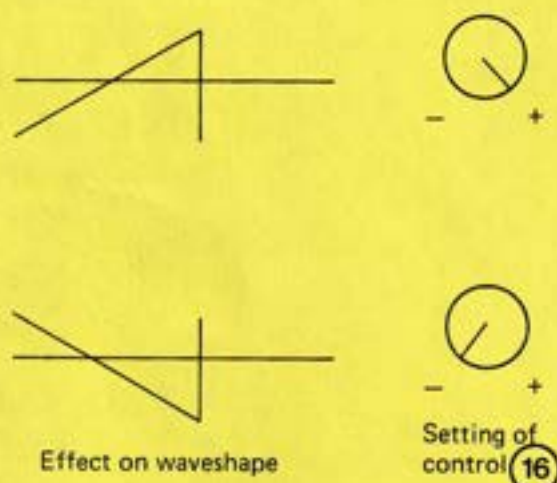

Fig. 11
- (2) Hold middle C and rotate the control (16) clockwise and then anticlockwise. When it is clockwise (positive modulation) the filter will be swept by a rising sawtooth as shown. Turning it anticlockwise alters the sweep waveshape to a falling sawtooth. Figure 11 makes these clearer. Note that for full modulation the FREQ control (14) has to be set so that the Control Oscillator can cover the full frequency range of the filter.
- (3) With the modulation (16) set fully positive, vary the FREQ control over its entire range. It can be heard that there are limits at the extremities of the range.